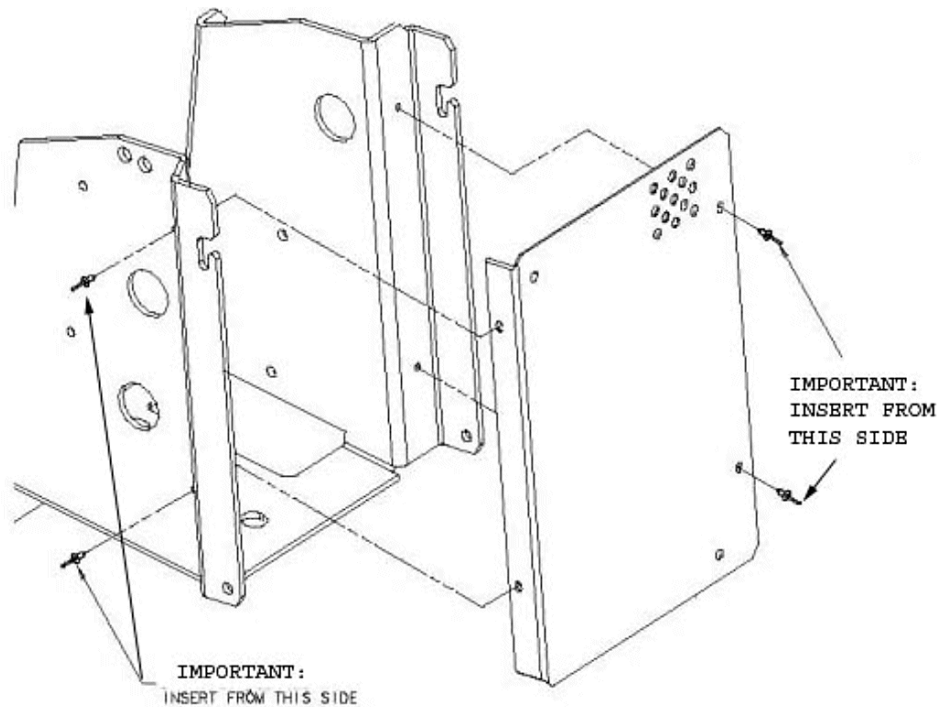

Figure 5 - Pop Rivet Insertion
- 23.) Use the supplied Pop Rivets and Rivet gun to reinstall the perforated plate to the **DAS** fuse holder chassis. Make sure to install the pop rivets in the orientation show in Figure 5 below. Failure to do so can cause interference with the **DHCB** for two of the pop rivets when the **DHCB** is reinstalled.